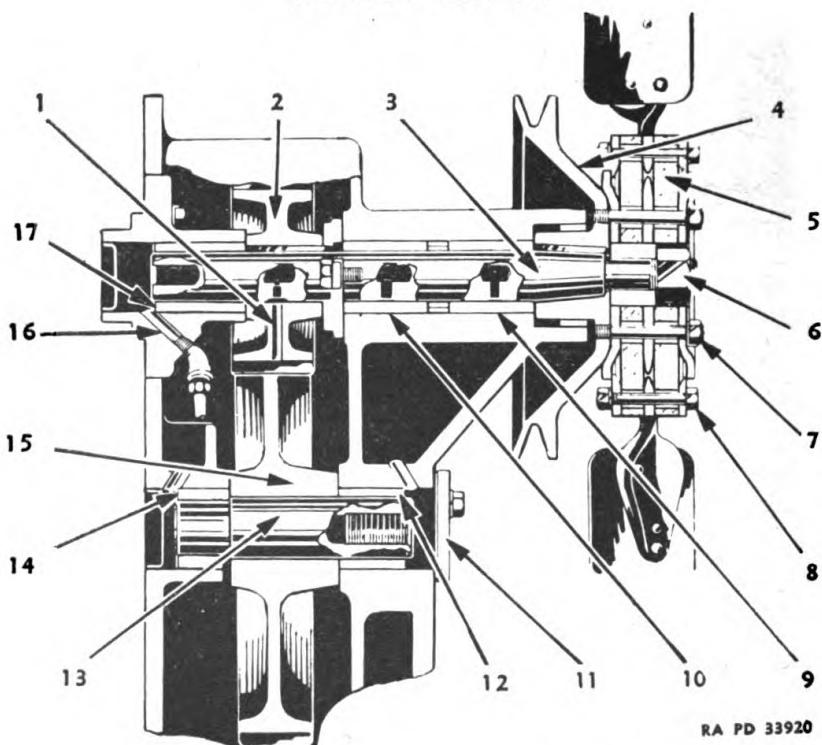

FIGURE 11.—Fan assembly—schematic.
b. Disassembly.—Remove overflow tube (2), fan shield (4), and guard (7). The top tank (1), bottom tank (9), and side plates (5) can be taken off by removing a series of capscrews at (3) and (8). New gaskets should be used in reassembly.
13. Fan (fig. 11).—*a. Removal.*—The fan is driven from the cam-shaft gear through an idler gear (15). Composition disks (5) in the
b. Disassembly.—Remove nuts (7) and slide fan off the hub. Disassemble fan by taking out bolts (8). If cracks appear in the composition drive disks, replace them. Nut (6) requires a $1\frac{5}{16}$ -inch wrench. Pully (4) can be pulled from the shaft by using a screw type puller and $2\frac{3}{8}$ N. F. by 5-inch capscrews in the stud holes (7). Protect the end of the fan shaft while pulling the hub so the puller screw will not distort the threads.
14. Fan drive.—*a. Lubrication.*—The fan shaft bushings are pressure lubricated by crankcase oil entering the drilled fan shaft through tube (16) (fig. 11). Oil escaping through the passage (1) in gear (2) is sprayed throughout the timing gear housing as the gear is rotated. Some of the lubricant from the fan shaft is caught in a reservoir at each end of the idler gear shaft to lubricate the idler shaft bushings.
b. Disassembly.—Should it be desired to replace the fan shaft or idler shaft bushings, the timing gear housing should be removed. With the fan and pully (4) off the shaft, the shaft (3) and gear (2) can be withdrawn from the rear of the housing. Idler shaft (13) is pressed into gear (15). The shaft is threaded for a $5\frac{1}{8}$ -inch, 18-puller screw made accessible by removing plate (11).